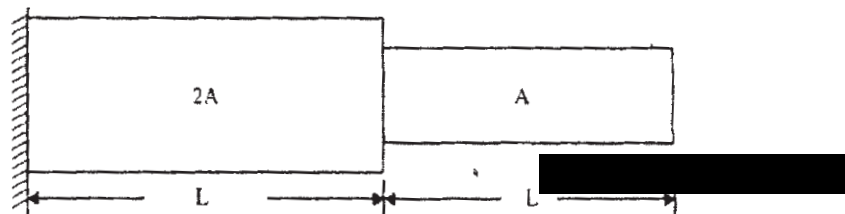

Fig. 9a
- Q9)** Find the natural frequencies longitudinal vibration of the constrained stepped shaft of areas A and $2A$ and of equal length L , as shown in the fig. 9a. Compare the result obtained using lumped mass matrix approach and consistent mass matrix approach. [16]